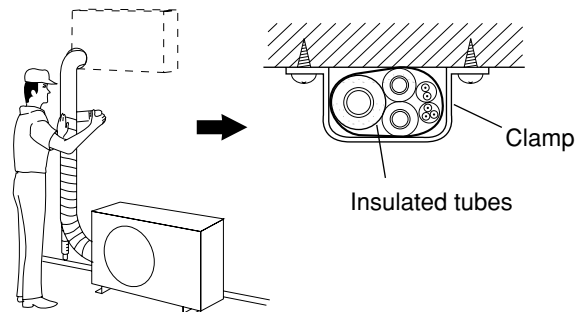

Fig. 55
- (1) At this time, the 2 refrigerant tubes (and electrical wire if local codes permit) should be taped together with armoring tape. The drain hose may also be included and taped together as 1 bundle with the tubing.
- (2) Wrap the armoring tape from the bottom of the outdoor unit to the top of the tubing where it enters the wall. As you wrap the tubing, overlap half of each previous tape turn. (Fig. 55)
- (3) Clamp the tubing bundle to wall, using 1 clamp approx. every 47" (120 cm).